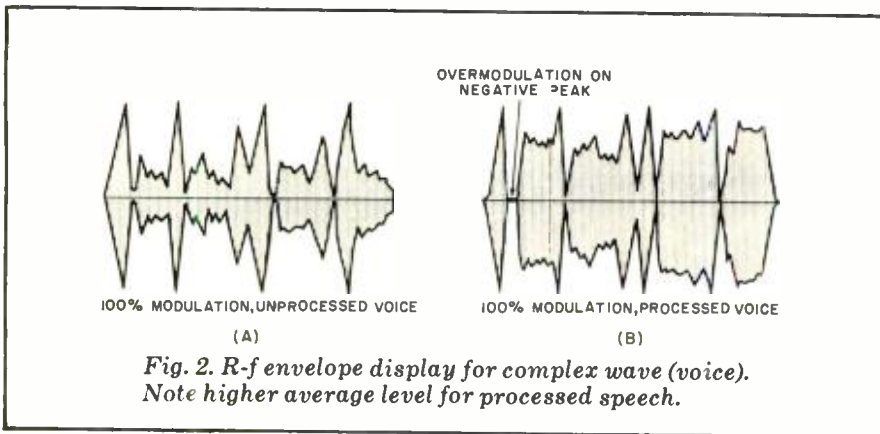

Fig. 2. R-f envelope display for complex wave (voice). Note higher average level for processed speech.
tone are shown in Fig. 1. The waveforms in Fig. 2 illustrate the display for a voice-modulated carrier without (A) and with (B) speech processing. These waveforms can be displayed by feeding the transmitter's output (using a dummy load in place of the antenna) directly to the vertical deflection plates of an oscilloscope (see Fig. 3A).